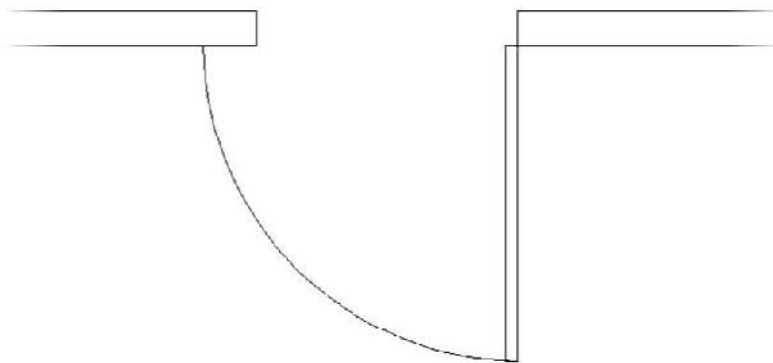

FIGURE 4.56: A close-up view of the bathroom door
2. Click the Zoom Window button found on the Navigation bar to zoom in to the interior door opening (see Figure 4.56).